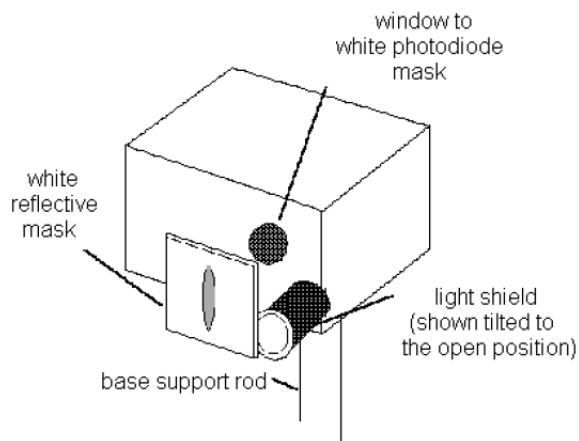

Figure 7
- 6 See Fig. 7. Rotate the light shield of the h/e Apparatus out of the way to reveal the white photodiode mask inside the Apparatus. Rotate the h/e Apparatus back and forth on the base support rod until the image of the aperture is centered on the window in the phototube mask. (If the light will not fall on the window, you may not have the entire assembly directly in front of the mercury lamp.) Then tighten the thumbscrew on the base support rod to hold the Apparatus in place.